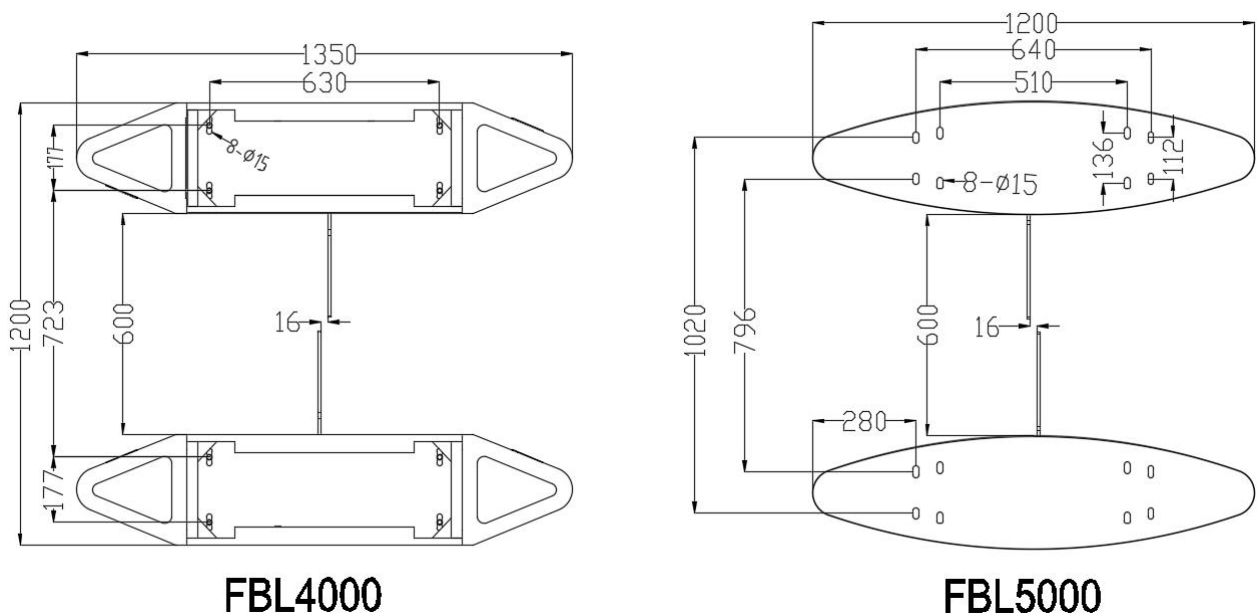

Figure 2-3
For the outlet of concealed cables, see the installation hole positions of the flap barrier in Figure 2-3. The device uses 6 x 1.5 mm² cables with the voltage input range of AC 100-240 V as the power supply cable (including ground cables).
- 4) Drill holes: Move away the chassis and get ready a hammer drill and a 14 mm drill bit. Drill a hole with the depth of 80 mm in the screw hole center marks. Alternatively, drill holes according to installation hole positions. For devices, see Figure 2-3 for installation hole positions. The unit of data in the figures is mm.